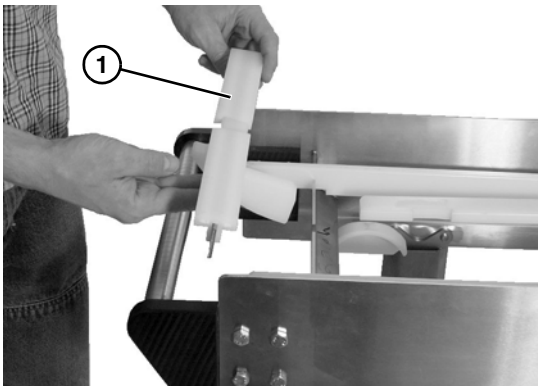

Figure 38
- Remove the nose bar idler bar with wear strips and idler shoe attached (Figure 38, item 1).